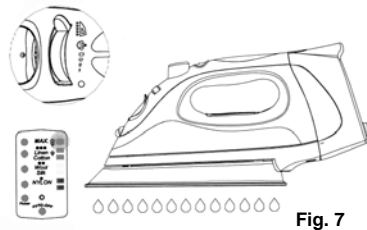

Fig. 7
4. Press the electronic fabric/temperature control button until you get the "MAX" temperature setting on the display panel and wait until the iron heats up and temperature setting light stops flashing. (Fig. 7)
5. Turn the variable steam control all the way to the right to the self-cleaning position and hold the iron horizontally over the sink. (Fig. 7)